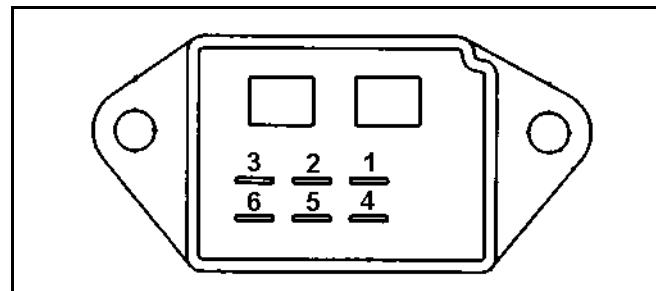

Figure 13
* NOTE: If multimeter does not have a diode scale, this test can not be done. This is not a problem if powered tests are done. Powered test must be done to check out relays (Figure 13).